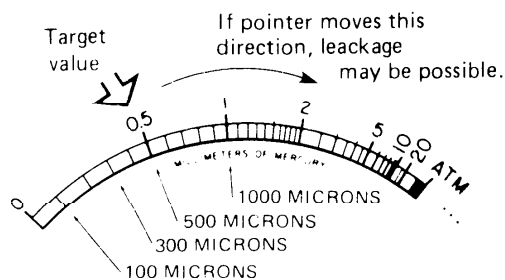

Fig. 29
- 7) Keep this condition at least 5 minutes and observe the vacuum gauge for change. (Fig. 29)